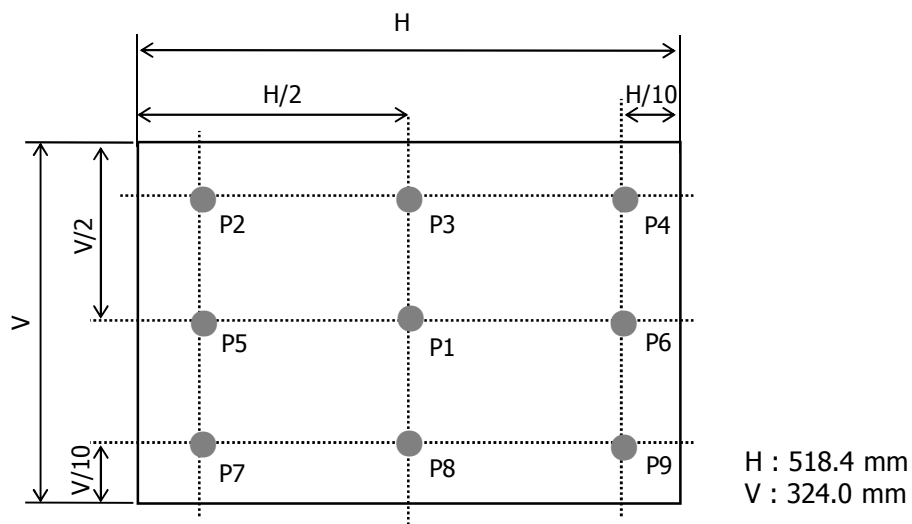

FIG. 2 Measure Point for Luminance
2. Surface luminance(L_{WH}) is luminance value at 1 point(1) across the LCD surface 50cm from the surface with all pixels displaying white. For more information see FIG 2.
For more information see FIG 2.